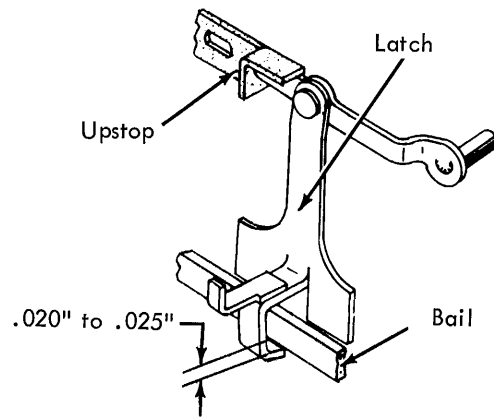

FIGURE 21. Check Latch Upstop
- a. Upstop (Fig. 21) - With the selector cams at the low point, form the upstop so that the latch clears the bail by .020" to .025".